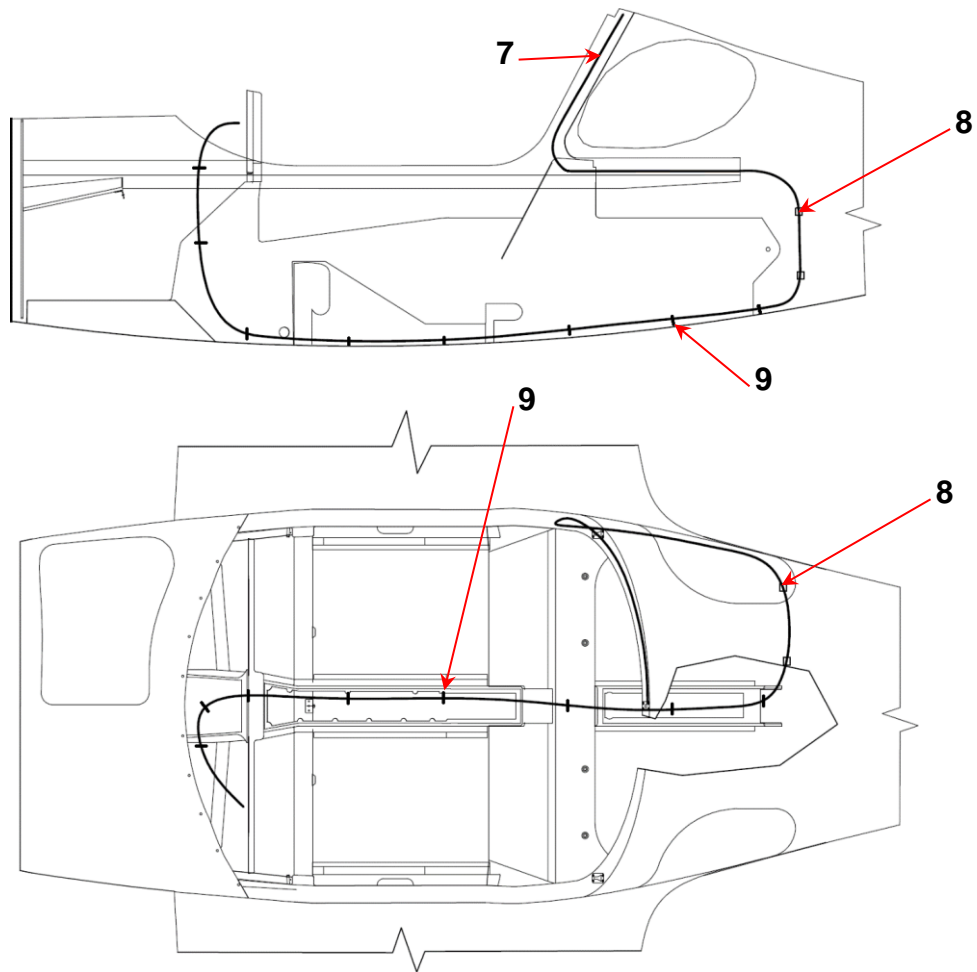

Fig. 4
- 2.3. Pass the cable (7, Fig. 4) to the right through the fuselage stiffener and central tunnel to the instrument panel.
- 2.6. Fix the cable (7, Fig. 4) to the fuselage and other electrical installation by means of clips (8) and cable ties (9).